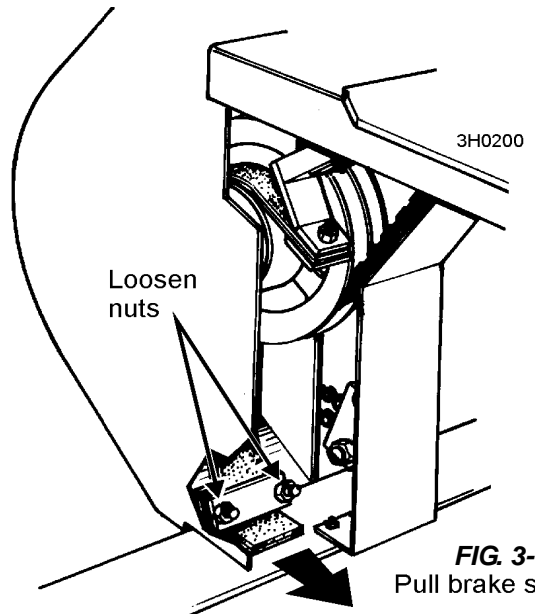

FIG. 3-7
1. Check the brake strap after the first 20 hours, and every 50 hours thereafter. If the blade does not stop quickly, the brake strap needs adjusting. To access the brake strap, remove the two belt covers located underneath the engine. Engage the clutch/brake lever. Loosen the two brake strap clamping bolts and pull the brake strap about 1/2" (12.7 mm) through the clamping plates. Retighten the bolts. Replace the belt guards. See Figure 3-7.